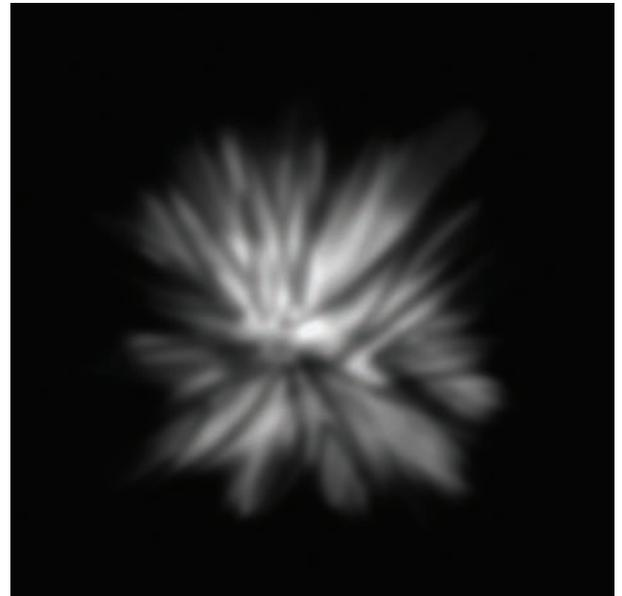

Figure 8.31
- Create a third layer above the black layer. Choose a white color and a soft brush and paint a radiant glow outward from the approximate center of the image. It does not need to be perfect or even all that pretty. Paint it so that you get a nice radial pattern of white that is similar to Figure 8.31.